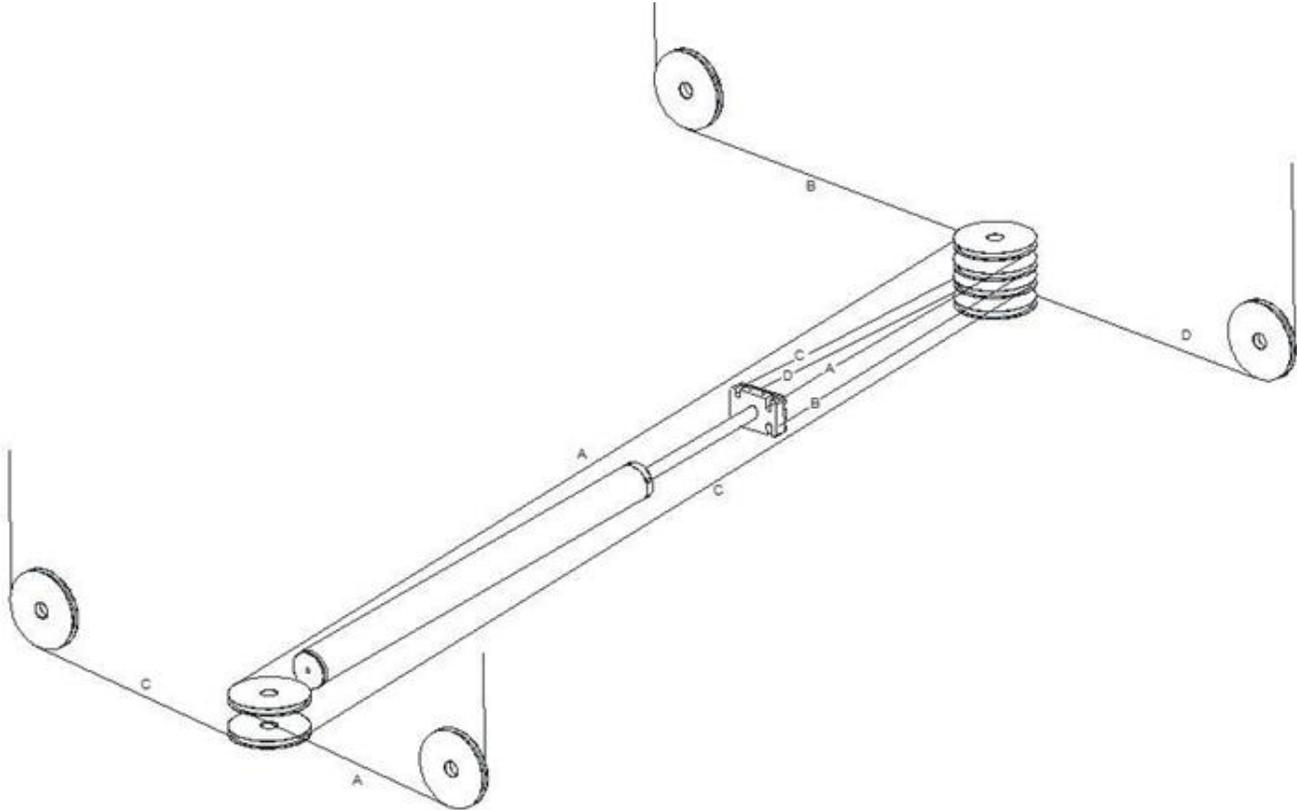

Fig. 16
- Slide the cables from the end of power-side runway and route the cables through the pulleys in transverse beams referring to the routing diagram (fig. 16). Make sure that the cables are not twisted during routing and are in the proper pulley grooves. Make sure the cables are routed correctly on the slack cable rollers;
- Verify if both the runways are leveled horizontally by means of a water gauge or a leveling instrument. If not make the adjustment referring to the figure 16.